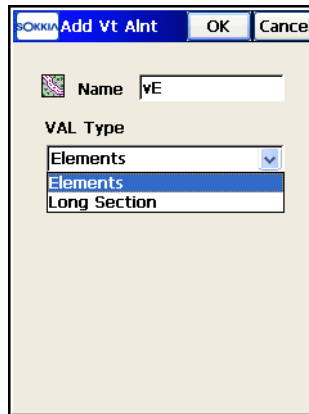

Figure 7-14. Add Vertical Alignment
1. Tap the **Add** button to add a new vertical alignment. The *Add Vt Alnt* screen displays (Figure 7-14 on page 7-13).
2. On the *Add Vt Alnt* screen (Figure 7-14 on page 7-13), enter the name of a new vertical alignment.
- For Long Sections vertical alignment types, only enter the vertical alignment name in the *Start Pt* tab of the *Add Vt Alnt* screen (Figure 7-14 on page 7-13).